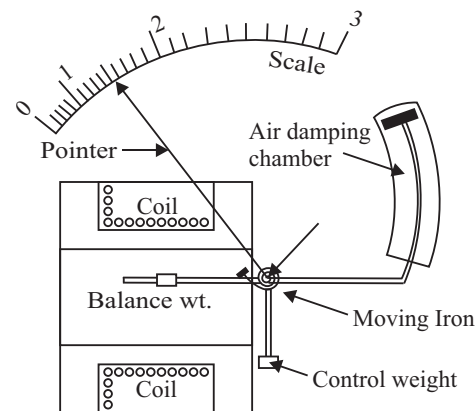

Fig. 2
2. Attraction (or single-iron) type (figure 2)